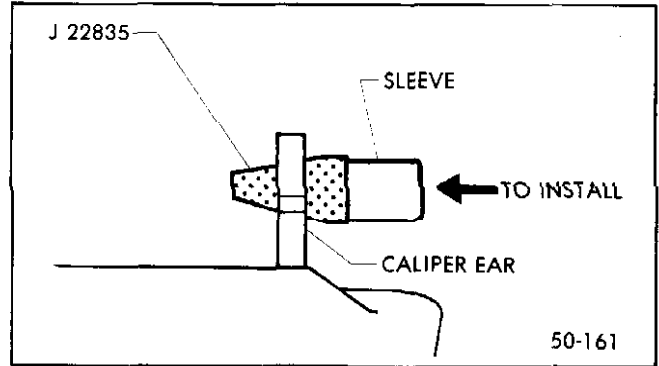

Figure 50-50--Sleeve Installation
2. Use Tool, J-22835, to install the sleeves. See Figure 50-50. Position the sleeves so that the end toward the shoe and lining assemblies is flush with the machined surface of the ear.